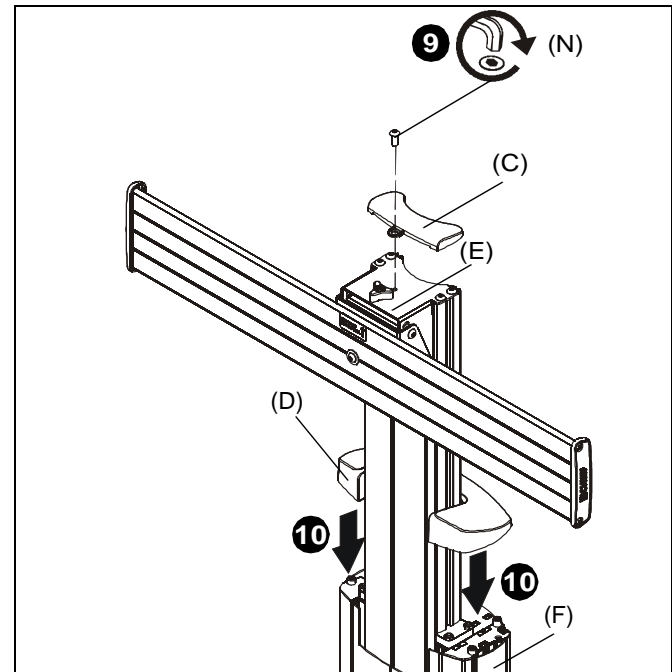

Figure 4
9. Use remaining 5/16-18 x 3/4" button head cap screw (N) to secure column upper cover (C) to interface head assembly (E). (See Figure 4)
10. Snap column inner cover (D) onto column assembly (F). (See Figure 4)